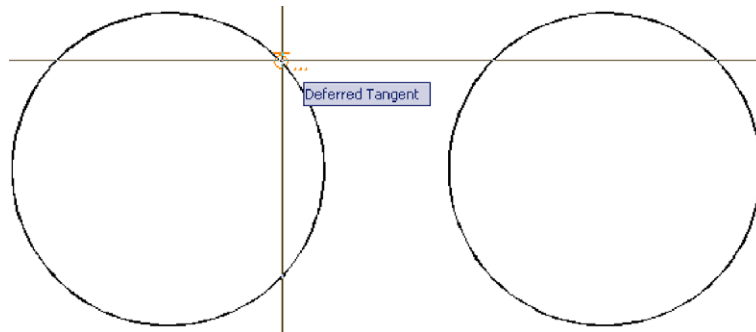
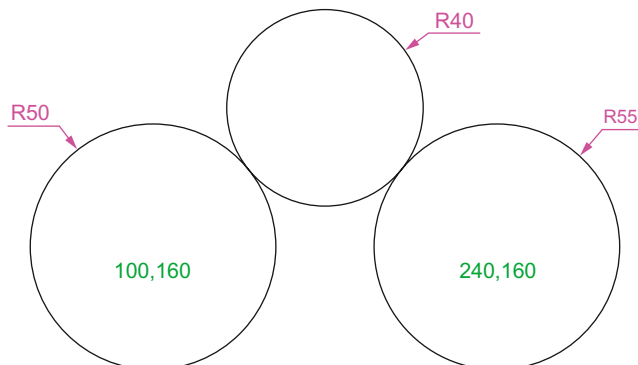

Fig. 2.14 Second example – **Circle** tool – the two circles of radius 50
Fig. 2.15 Second example
### Second example – Circle tool (Fig. 2.15)
2. *Left-click* on the **Circle** tool icon and construct two circles as shown in Fig. 2.14 in the positions and radii shown in Fig. 2.15.
The circle of radius **40** tangential to the two circles already drawn then appears (Fig. 2.15).